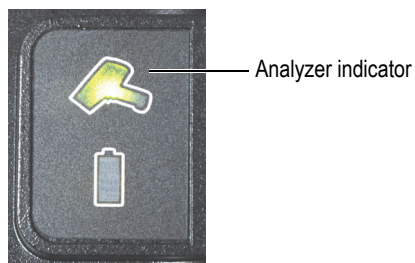

Figure 3-4 Analyzer indicator turned on
3. Make sure that the Analyzer indicator light is on (green) [see Figure 3-4 on page 58].